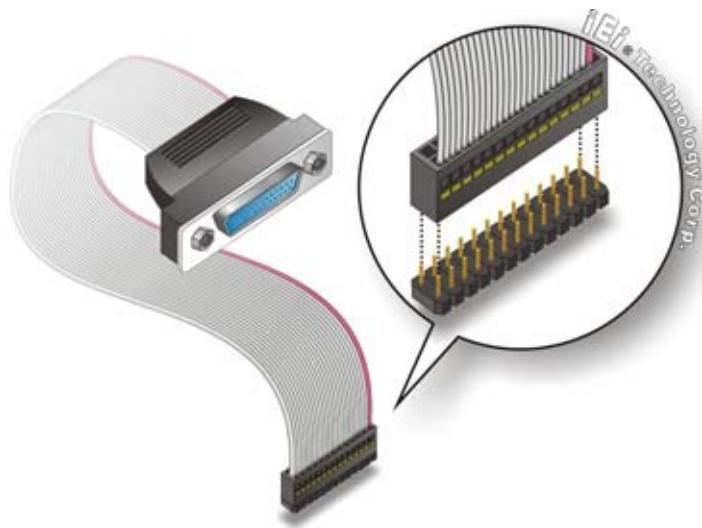

Figure 5-10: LPT Cable Connection
Step 2: Align the connectors. Correctly align pin 1 on the cable connector with pin 1 on the eKINO-945GSE LPT box-header connector. See Figure 5-10.
Step 3: Insert the cable connectors Once the cable connector is properly aligned with the 26-pin box-header connector on the eKINO-945GSE, connect the cable connector to the on-board connector. See Figure 5-10.